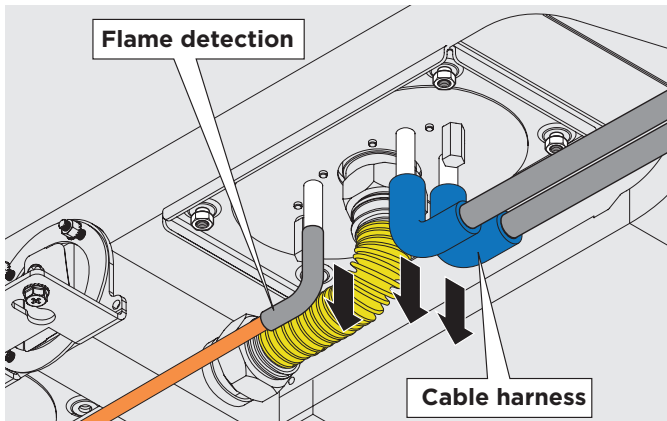

Figure 5
- a) Disconnect the cable harness of the ignition and flame detection electrodes (by pulling the connection down) as shown in **Figure 5**.